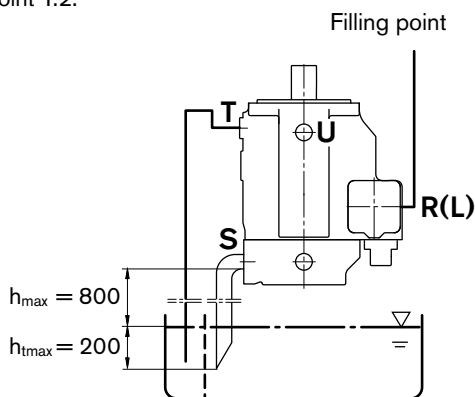

Fig. 2
b) When the minimum fluid level is below the mounting flange area: ports »R/L«, »T« and possibly »S« must be piped as shown in fig. 2. Also observe the conditions as shown in point 1.2.